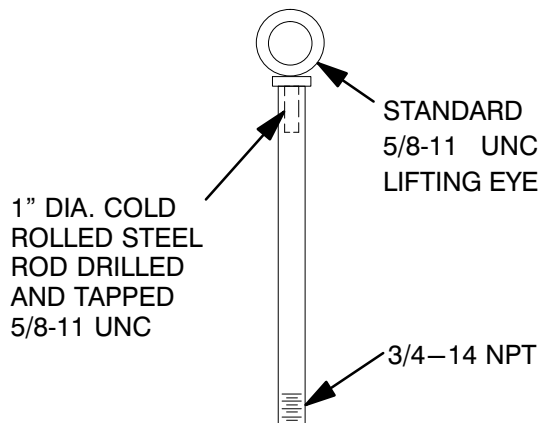

Figure 7. Casing Removal Tool
If the discharge port is in a horizontal position, fabricate a lifting device as shown in Figure 7 and screw it into the hole for the pipe plug (5). **Make certain** that the threaded end of the tool fully engages the threads in the casing. Use a suitable sling and hoist to remove the casing.